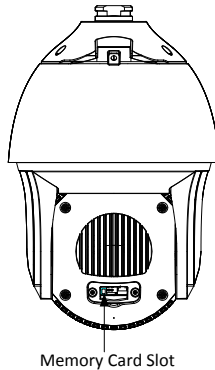

Figure 2-32 Memory Card Slot
2. Remove the cover on the back of speed dome as shown in Figure 2-32. Insert the memory card to the memory card slot and install the cover back.